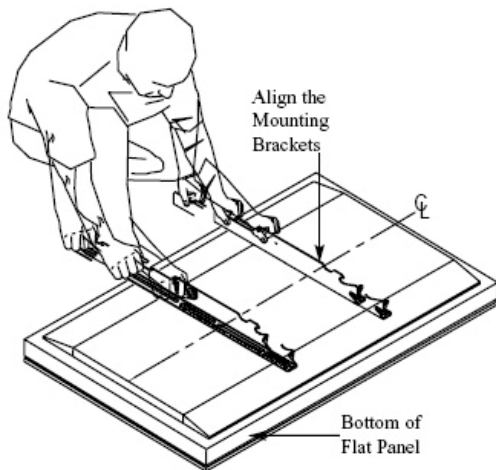

Figure 8
5. Match the center of viewing guide with the centerline you marked in Step 1 (Figure 8).